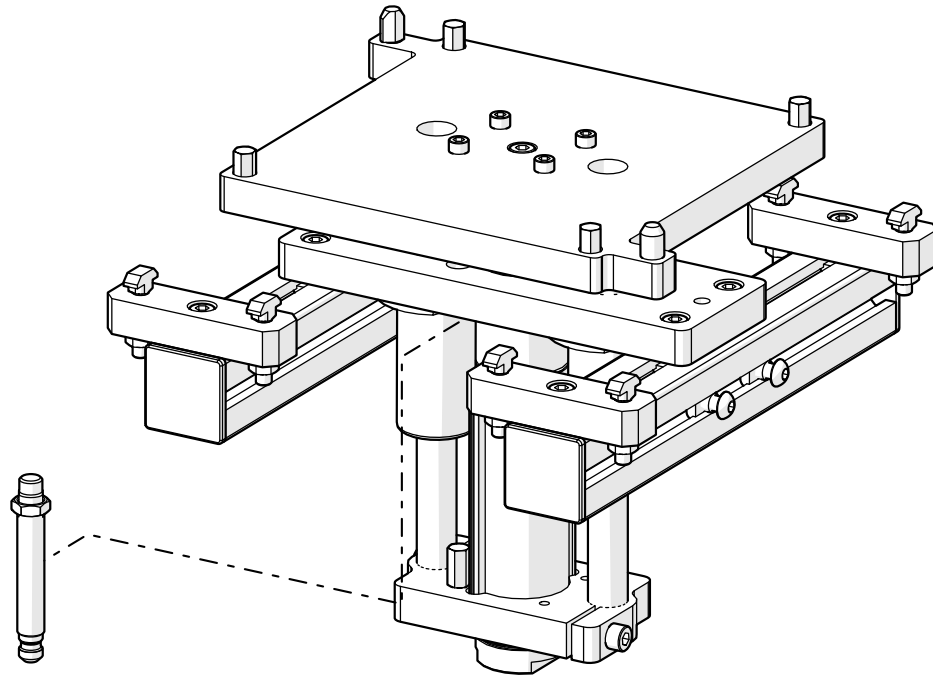

Figure 14: Removed P-00179
Step 1: Remove Jam Nut as shown in Figure 14.